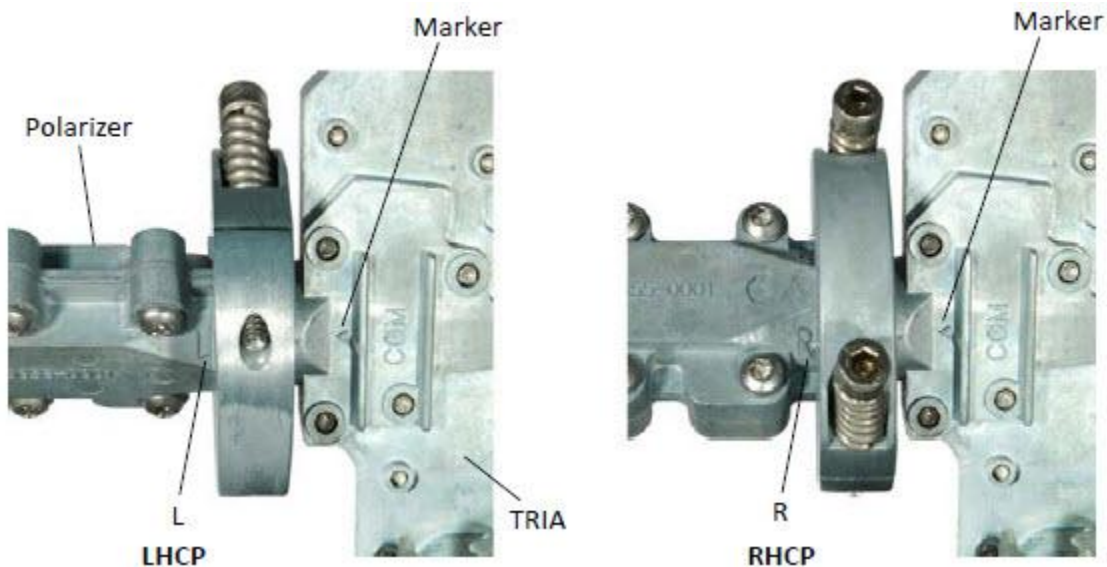

Figure 16: Determining the polarization setting of the radio
2. Refer to Figure 16 and check the position of the polarizer on the radio.